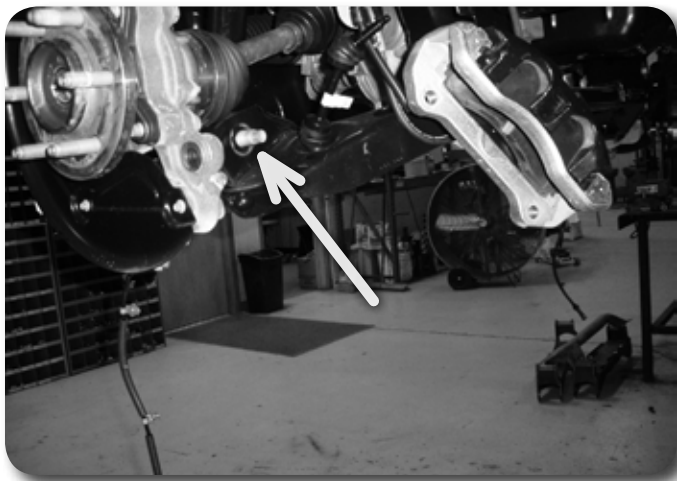

Figure 10
15. Loosen and remove the nut from the strut-to-lower control arm mounting bolt **Figure 10**. Leave the bolt in place at this time. Retain the mounting nut.